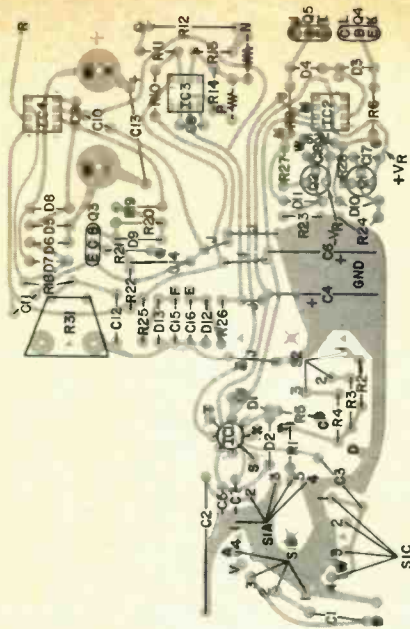

Fig. 3. Actual-size foil pattern for Super Op is below; component layout shown at left.
**Construction.** Any type of construction can be used, though a PC board using the foil pattern in Fig. 3 simplifies the wiring. The board is mounted directly on the meter terminals.